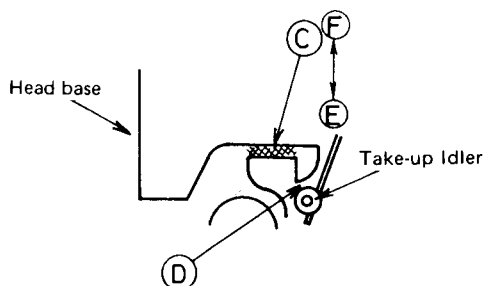

Fig. 18
- If the pinch roller turns very later than the take-up idler, bend the part (C) of head base which is contacted with the take-up idler by the part (D) to the (E) direction as shown in Fig. 18.
- If the take-up idler turns later than the pinch roller, bend the part (C) to (F) direction.